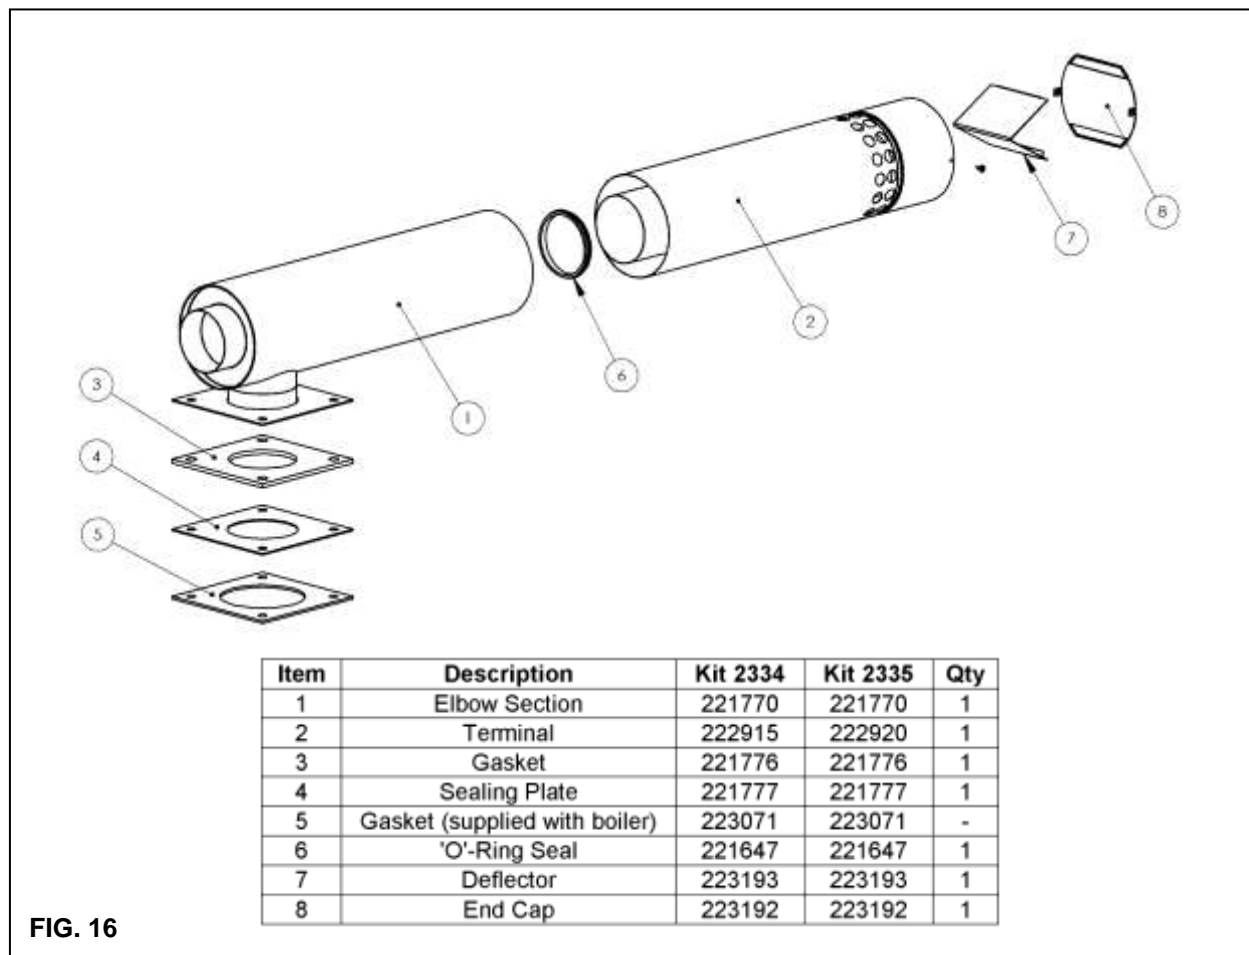

FIG. 16
- Fit the sealing plate (**item 4, fig 16**) over the four studs and place the terminal gasket (**3**) over the sealing plate. Position the boiler.